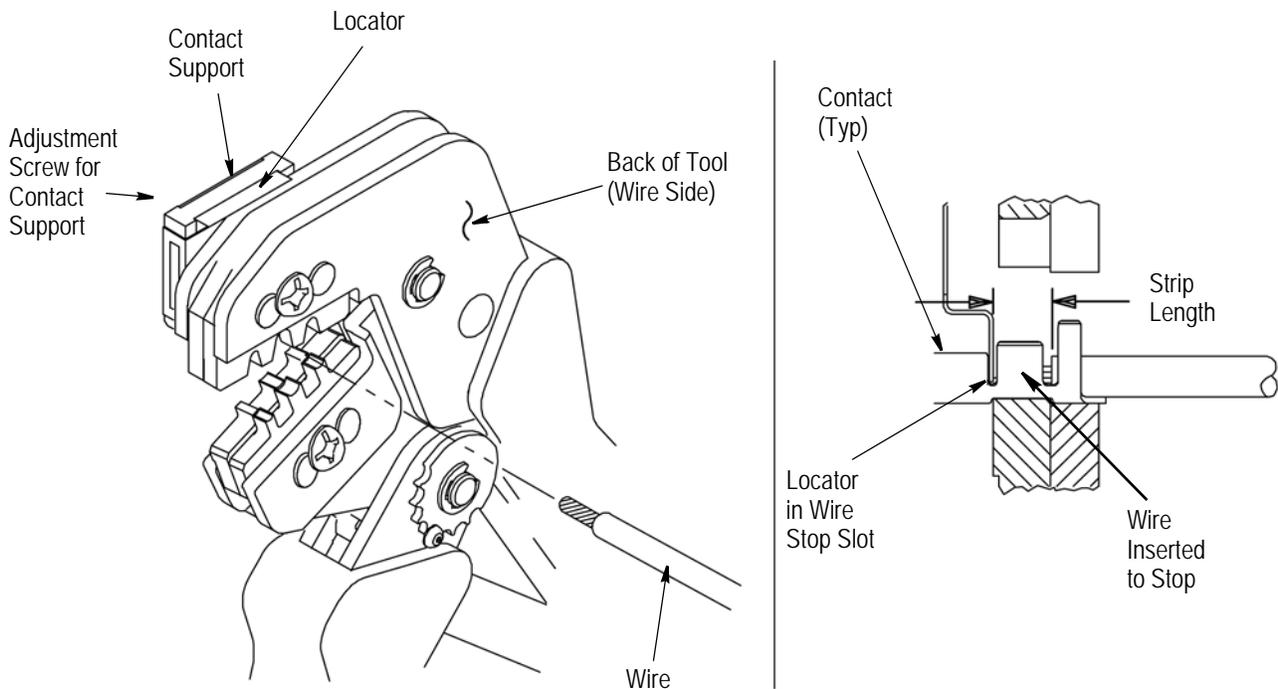

Figure 3
4. CONTACT SUPPORT ADJUSTMENT (Figure 3)
the length indicated in Figure 1, taking care not to nick or cut wire strands. Select an applicable contact and identify the appropriate crimp section according to the wire size markings on the tool. Refer to Figure 3 and proceed as follows:
3. Position the contact so that the mating end of the contact is on the locator side of the tool, and so that the open "U" of the wire and insulation barrels must face the top of the tool. Place the contact up into the nest so that the movable locator drops into the slot in the contact. Refer to Figure 3. Butt the front end of the wire barrel against the movable locator.
5. Insert stripped wire into contact insulation and wire barrels until it is butted against the wire stop, as shown in Figure 3.
NOTE  *The crimped contact may stick in the crimping area, but the contact can be easily removed by pushing downward on the top of the locator (see Figure 3).*